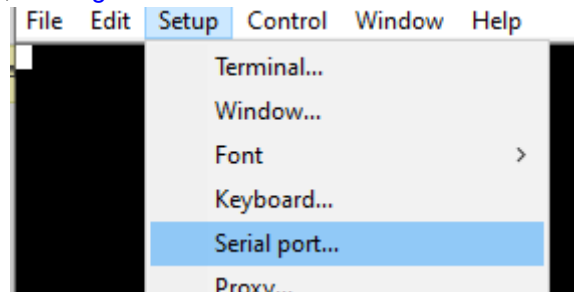

Figure 4-1. Opening Serial Port Window in TeraTerm
3. Click on Setup > Serial port, see Figure 4-1.